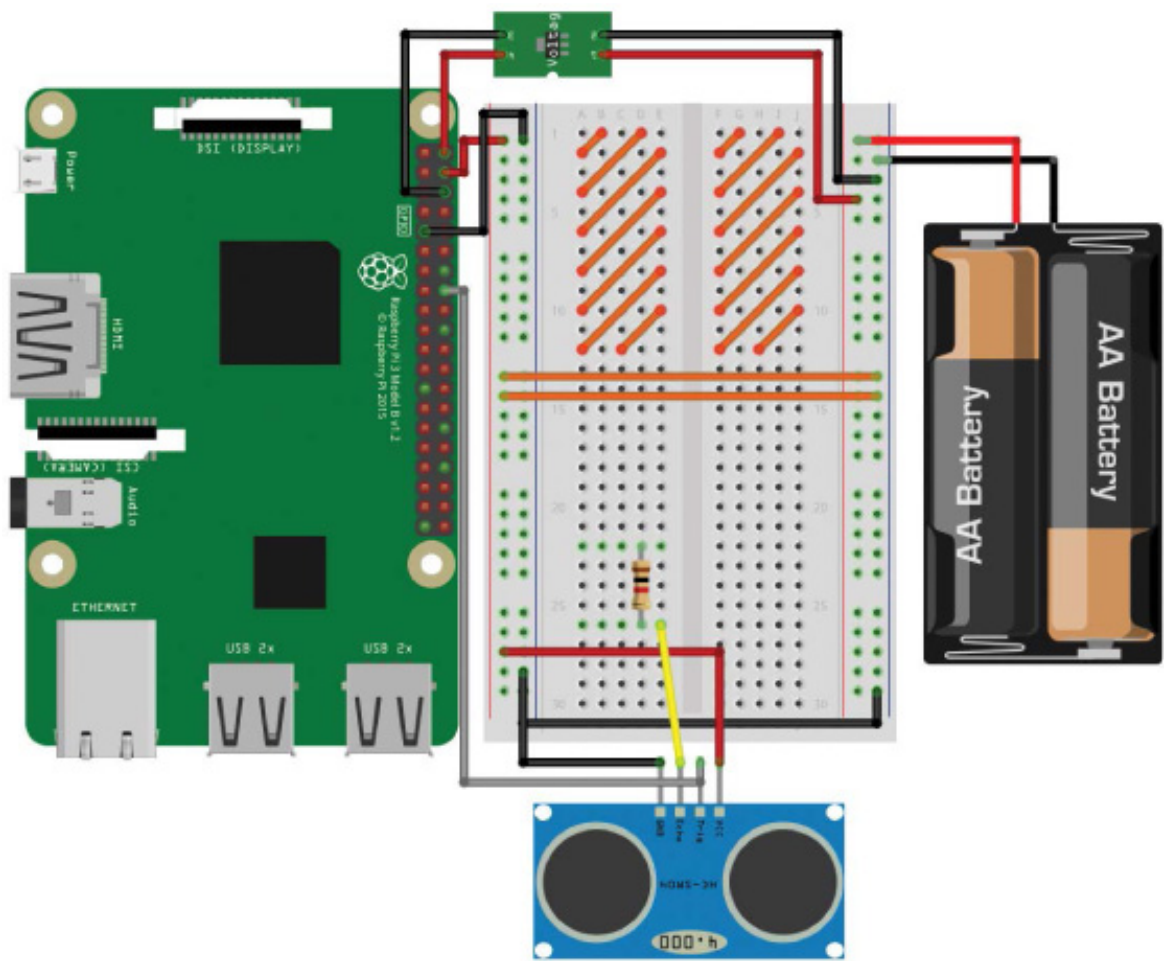

FIGURE 5-6 The Trig pin of the HC-SR04 connected to BCM 23 and the Echo pin connected to a 1 k Ω resistor
4. Then attach a jumper wire from the Echo pin of your sensor to a new row on your breadboard. Connect a 1 kΩ resistor by putting one leg of the resistor into the same row as the Echo pin and the other leg of the resistor into a different, unused row of your breadboard. At this point your wiring should look like Figure 5-6.